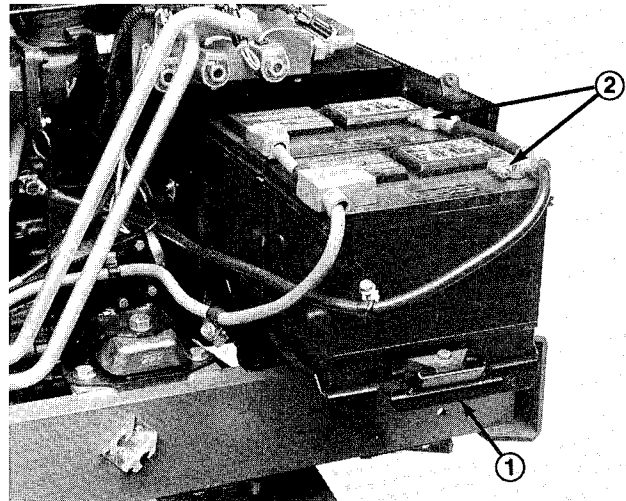

Figure 52
2. Remove capscrews securing battery tray to machine and slide tray out (Fig. 52).
4. Remove negative (–) battery cable connectors from batteries (Fig. 52). Connect a 3 to 4 Amp battery charger to the posts. Charge the batteries at a rate of 3 to 4 Amperes for 4 to 8 hours.